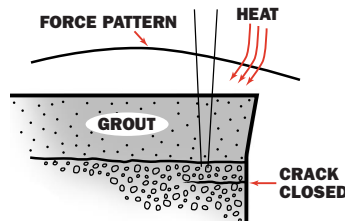

**Figure 1:**
**B**ecause epoxy grout and concrete absorb and dissipate heat rather slowly, cyclic temperatures between day and night cause uneven thermal expansion or contraction at various levels in the foundation. Uneven thermal expansion produces stresses that can exceed the strength of the weak link in the system. The weak link is usually the tensile strength of the concrete. In **Figure 1** the system is at thermal equilibrium and there are no stresses. In **Figure 2**, during the cooling cycle, the top portion of the grout contracts more than the lower surface.